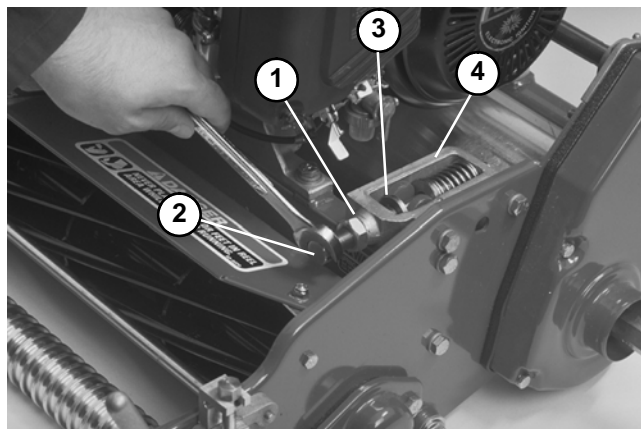

Figure 23
2. Loosen jam nut on the adjusting screw. Loosen adjusting screw until the thrust washer contacts the inside of the frame adjuster. Accomplish on both sides of the mower (Fig. 23).